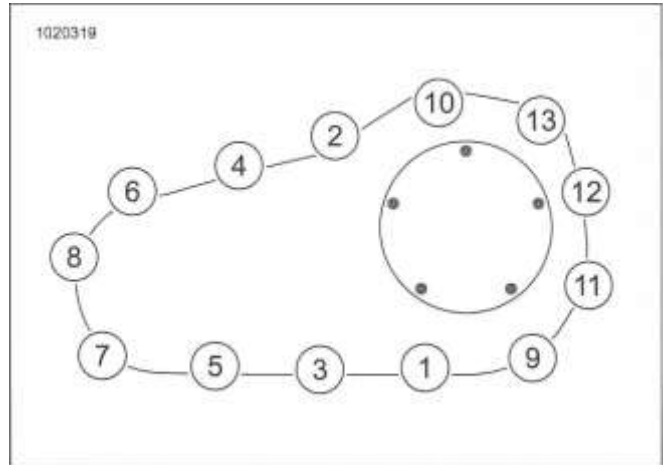

Figure 5-10. Primary Chaincase Cover Torque Sequence
- c. See Figure 5-10. Tighten in sequence shown.